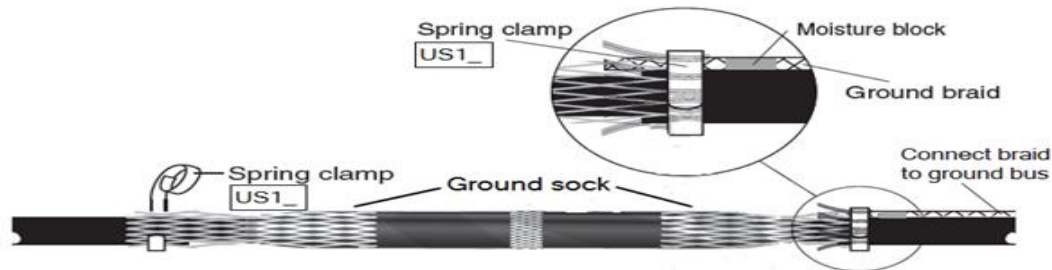

Figure 22
- Roll out the ground sock on each side of the splice. Lay the ground sock over the metallic shield end of the cables and connect with spring clamps included in the splice kit. Connect copper braid to system ground. Refer to Figure 22